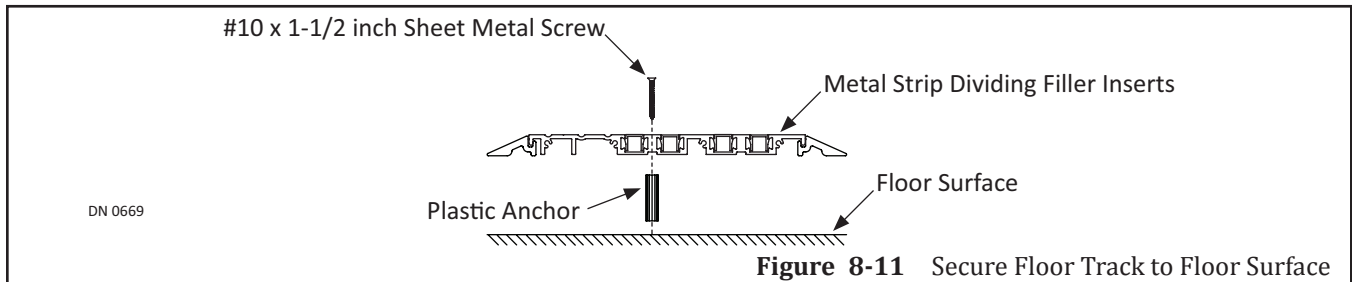

Figure 8-11 Secure Floor Track to Floor Surface
6. Insert plastic anchors into the drilled holes. Please see Figure 8-11.